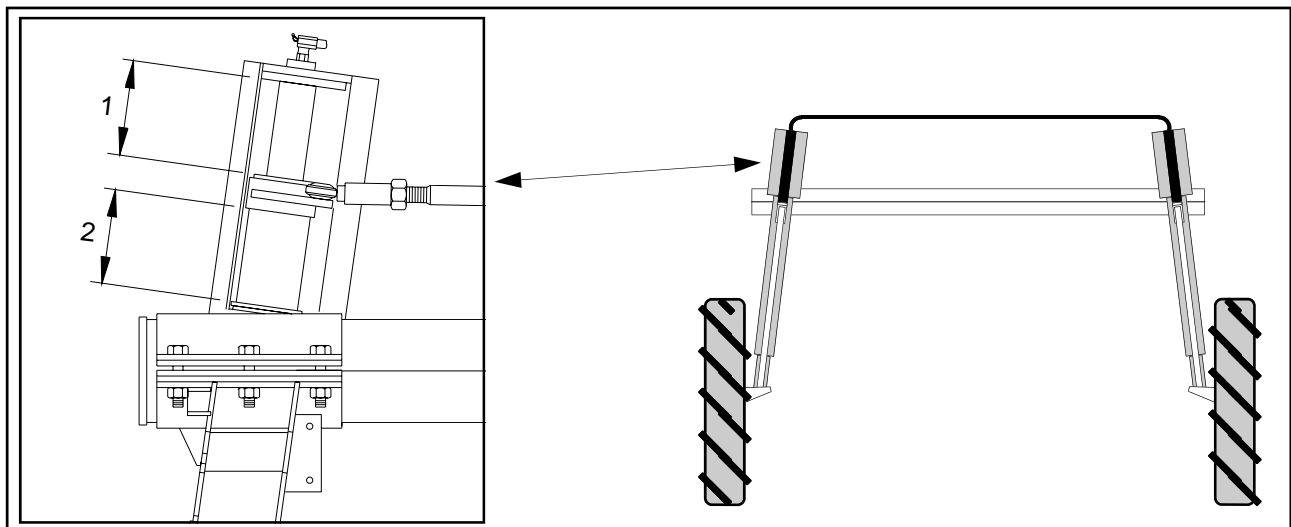

FIG 7.15
Fill the system until the dimensions above and below the steering arm are equal (fig. 7.15, items 1 & 2).